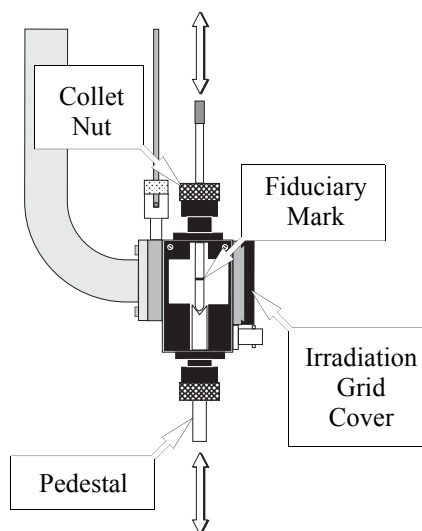

Figure 17-16 Proper positioning of the DPPH sample.
6. **Optimize the DPPH sample position.** Move the sample tube up and down until the maximum signal intensity is attained. (See Figure 17-16.) Avoid moving the sample from side to side. Perhaps the best technique is to loosen the collet nuts for the pedestal and sample tube and move the sample too low. Then use the pedestal to slowly push the sample up. Sometimes the process of moving the sample tube in the cavity can cause the AFC to lose lock. Retune the frequency if this happens. If the signal is clipped, decrease the Receiver Gain. When you have centered the DPPH sample, secure the sample tube by tightening the collet nuts.